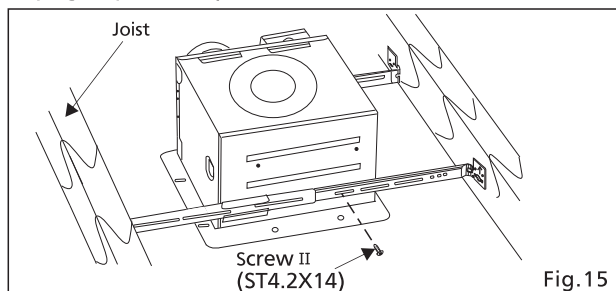

Fig.15
3. Install the suspension bracket to joists by using long screws (ST4.2X20)(Fig.14) and secure it to the fan body by using screw II (ST4.2X14) (Fig.15)